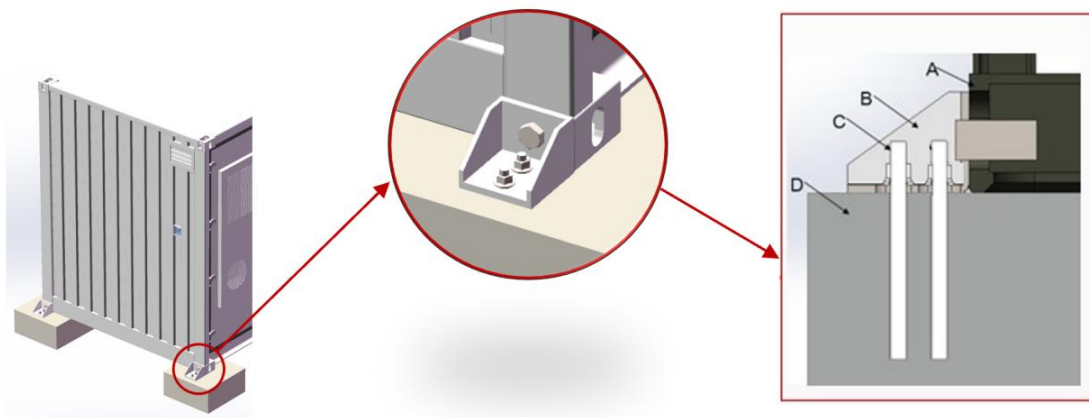

Figure 15. Remove all anchor expansion bolts
- ✓ **Step 1:** Remove all anchor expansion bolts, locations are shown in Figure 15.